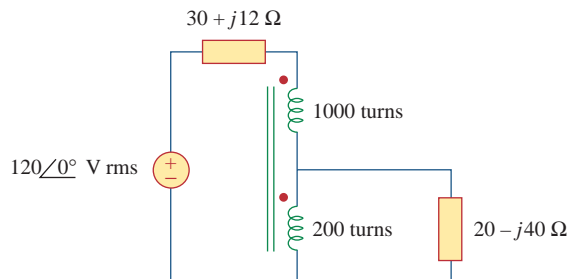

Figure 13.133
13.70 In the ideal transformer circuit shown in Fig. 13.133, determine the average power delivered to the load.